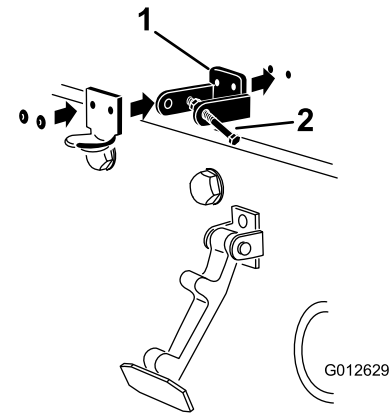

Figure 4
3. While aligning the mounting holes, position the CE lock bracket and the hood-latch bracket onto the hood (Figure 4).
5. Rivet the brackets and the washers to the hood (Figure 4).